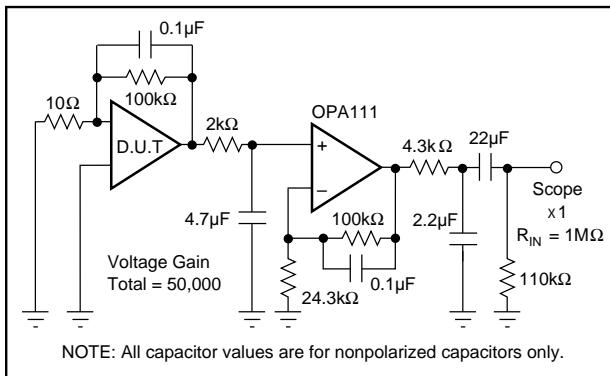

FIGURE 1. 0.1Hz to 10Hz Noise Test Circuit.
NOTES: (1) Measured with industry-standard noise test circuit (Figures 1 and 2). Due to errors introduced by this method, these current noise specifications should be used for comparison purposes only. (2) Offset voltage specifications on grades A and E are also guaranteed with units fully warmed up. Grades B, C, F, and G are measured with automatic test equipment after approximately 0.5 seconds from power turn-on. (3) Unnullled or nulled with $8\text{k}\Omega$ to $20\text{k}\Omega$ potentiometer. (4) Long-term voltage offset vs time trend line does not include warm-up drift. (5) Typical specification only on plastic package units. Slew rate varies on all units due to differing test methods. Minimum specification applies to open-loop test. (6) This parameter guaranteed by design.